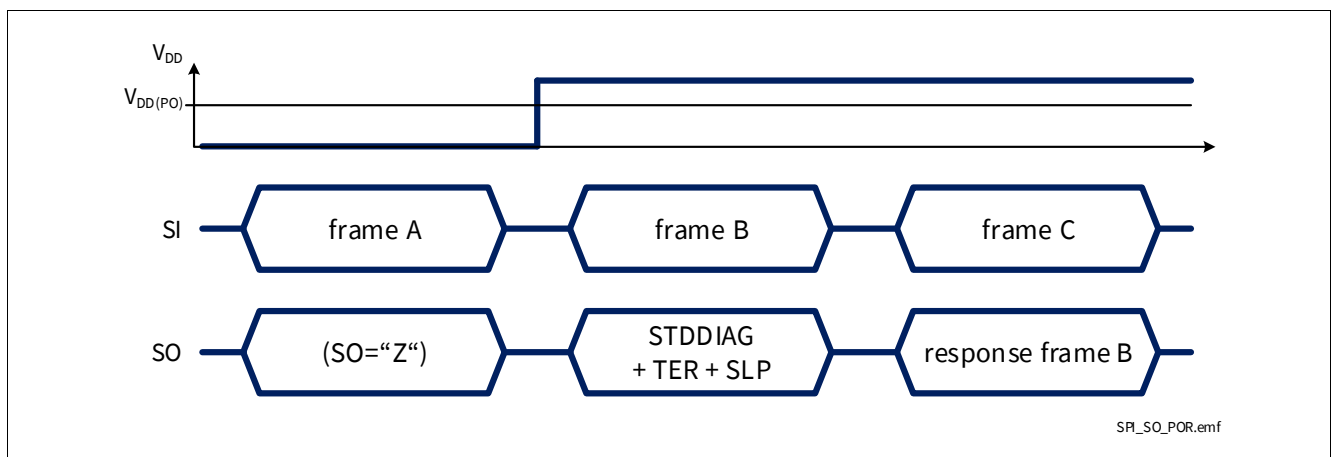

Figure 44 SPI response after coming out of Power-On reset at V_{DD}
- When BTS72220-4ESA digital supply comes out of Power-On reset condition, as shown in **Figure 44**